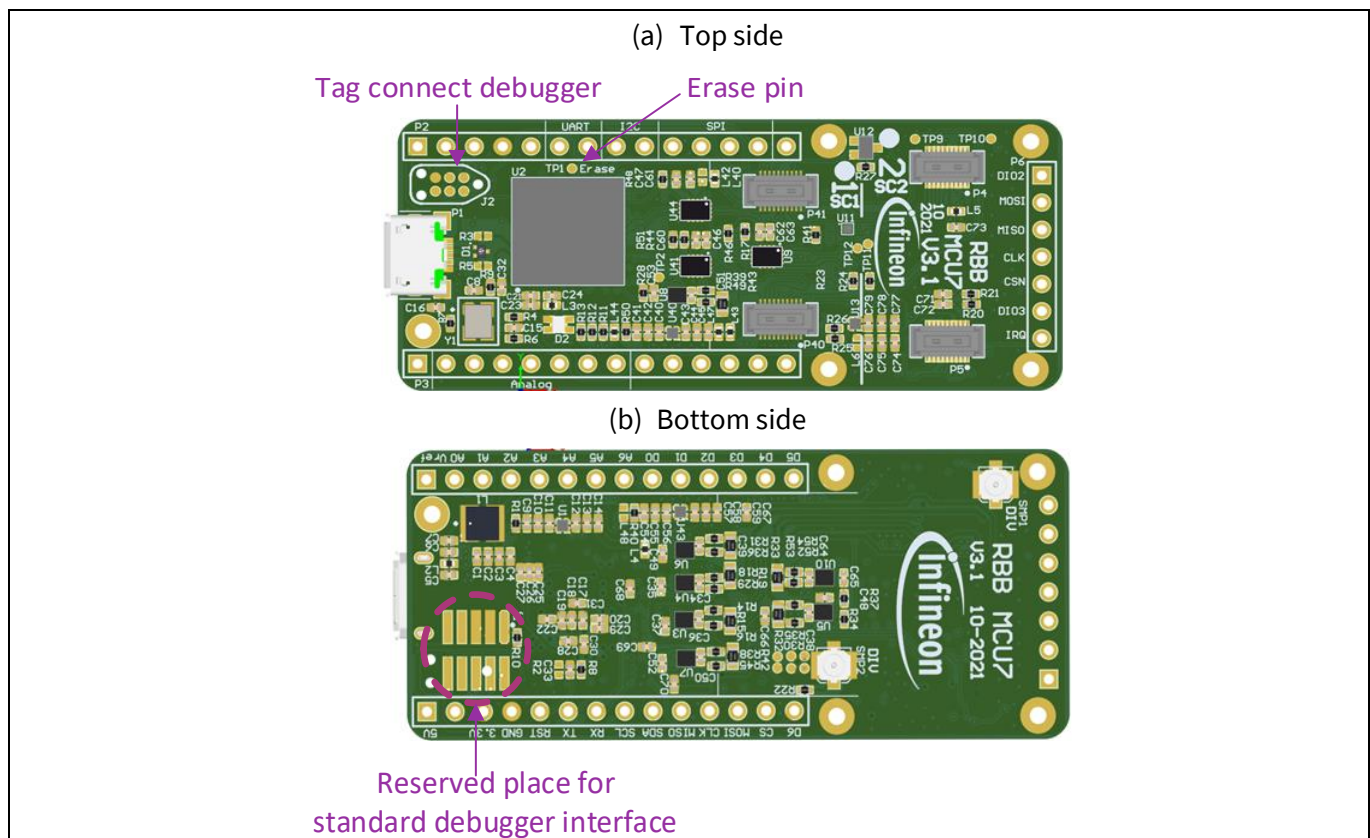

Figure 12 Debug connectors on the “Radar Baseboard MCU7 Plus”
If the user requires a debugger connector, the board features two options, as illustrated in Figure 12. On the top side of the “Radar Baseboard MCU7 Plus”, there is the layout for a Tag Connect debugger. If the user does not want to buy a Tag Connect debug cable, they can solder a normal 10-pin Arm debugging connector to the pads of component J1 on the bottom side of the “Radar Baseboard MCU7 Plus”.
- Hold the MCU “ERASE” pin to high by connecting TP1 to 3.3 V (see Figure 12).